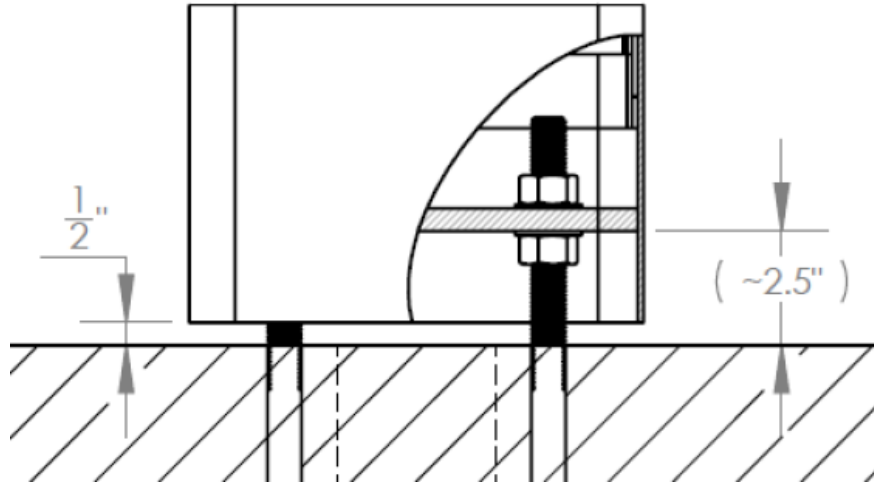

Figure 1: Tower Installation
3. Install one 3/4"-10 hex nut and one washer on each anchor bolt 2.5-3.5" above grade to top of washer. This will allow for a 1/2" air gap between the foundation and the tower, which will allow airflow and prevent moisture problems. Verify that the nuts are level (0° pitch). – See **Figure 1** –